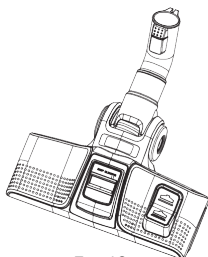

Fig. 13
3. As in fig.13, tread on the pedal of the brush tool to let the bristles out, and you can clean the floor.